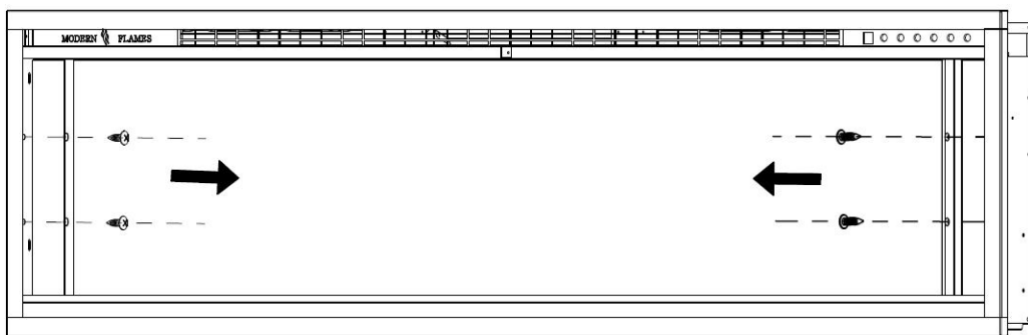

Figure 2-3
D. Remove the four screws (2 per side) from the side of the appliance and remove the brackets (Fig. 2-3). Set the screw/brackets aside.